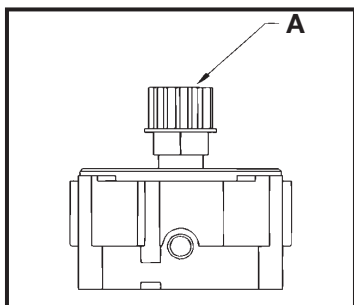

Fig. 7
2. Assemble drive pulley (A) Fig. 7, to motor spindle and tighten securely.